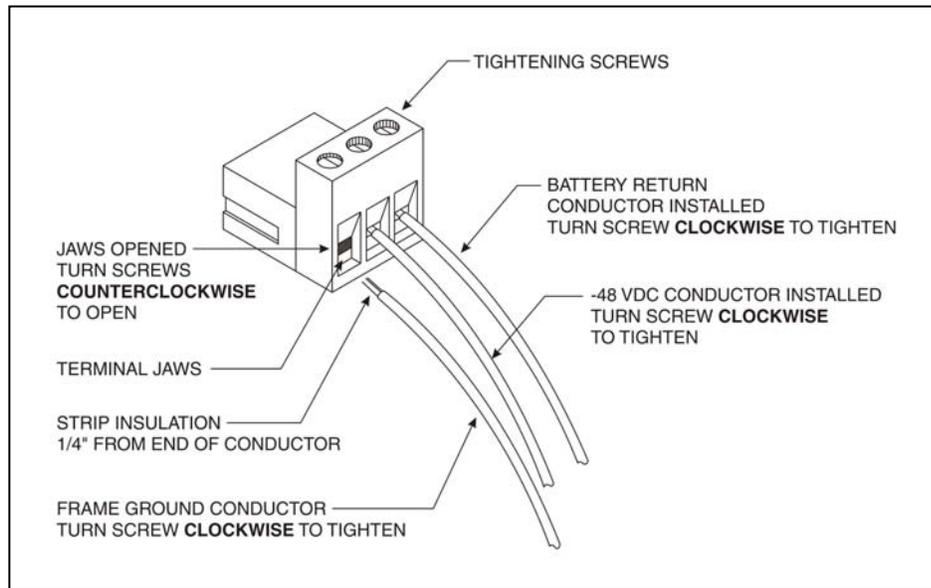

FIGURE 3-5: 289H UTILITY CARD POWER CONNECTOR WIRING
4. Using a small, straight-blade screwdriver, unscrew the terminal jaws on the Utility Card's power connection block. The terminal jaws, which are used to lock the conductors in place, are shown enlarged in FIGURE 3-5. When turned counterclockwise, the adjustment screws on the top of the block open the jaws so that the power, return and ground leads may be inserted.
6. Insert the other conductors. The +48 volt return conductor is installed above the power lead in the top terminal jaw. The frame ground (FGND) is installed in the bottom jaw. Both of these connections are shown in FIGURE 3-5.